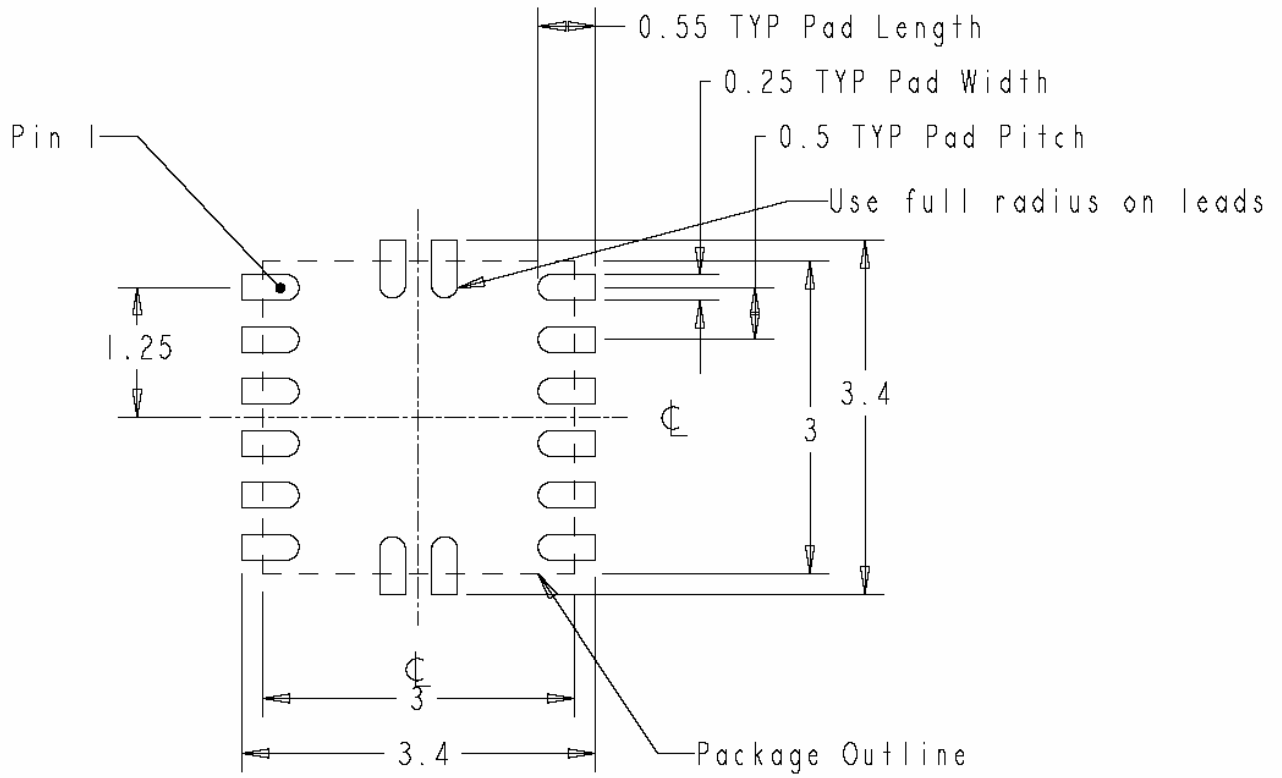

**Figure 12: Top PCB Layer Critical Components and Copper for Minimum Footprint**
Figure 12 shows critical components and layer 1 traces of a recommended minimum footprint EP53A7LQI/EP53A7HQI layout with ENABLE tied to  $V_{IN}$ . Alternate ENABLE configurations, and other small signal pins need to be connected and routed according to specific customer application. Please see the Gerber files on the Altera website [www.altera.com/enpirion](http://www.altera.com/enpirion) for exact dimensions and other layers. Please refer to Figure 12 while reading the layout recommendations in this section.
**Recommendation 2:** Input and output grounds are separated until they connect at the PGND pins. The separation shown on Figure 12 between the input and output GND circuits helps minimize noise coupling between the converter input and output switching loops.
**Recommendation 4:** Multiple small vias should be used to connect the ground traces under the device to the system ground plane on another layer for heat dissipation. The drill diameter of the vias should be 0.33mm, and the vias must have at least 1 oz. copper plating on the inside wall, making the finished hole size around 0.20-0.26mm. Do not use thermal reliefs or spokes to connect the vias to the ground plane. It is preferred to put these vias under the capacitors along the edge of the GND copper closest to the +V copper. Please see Figure 12. These vias connect the input/output filter capacitors to the GND plane and help reduce parasitic inductances in the input and output current loops. If the vias cannot be placed under  $C_{IN}$  and  $C_{OUT}$ , then put them just outside the capacitors along the GND. Do not use thermal reliefs or spokes to connect these vias to the ground plane.
**Recommendation 5:** AVIN is the power supply for the internal small-signal control circuits. It should be connected to the input voltage at a quiet point. In Figure 12 this connection is made with RAVIN at the input capacitor close to the  $V_{IN}$  connection.